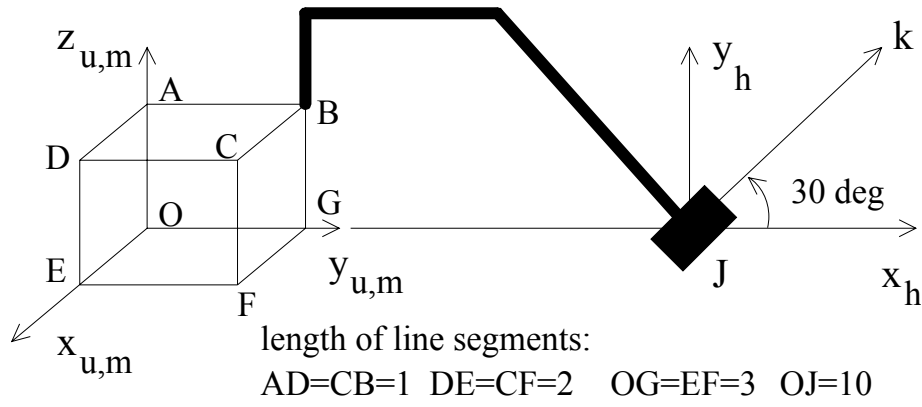

Fig. 2
2 Fig. 2 shows a connecting (bent) rod (BJ) rigidly connecting the rotational joint J to the cuboid (ABCDEFGO). Let
- 5> The cuboid (ABCDEFGO), bent connecting rod (BJ), and joint J be all connected as one rigid assembly.